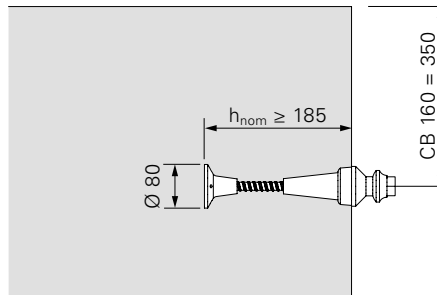

Fig. B1.04a
2. Screw Tie Rod DW 15 (33) into the Climbing Cone-2 M24/DW 15 (34).
3. If necessary, pull Spacer Tube Rough DR 22 (35) over the Tie Rod DW 15 (33).
4. Completely screw in and tighten Threaded Anchor Plate DW 15 (36) on Tie Rod DW 15 (33). (Fig. B1.04a)